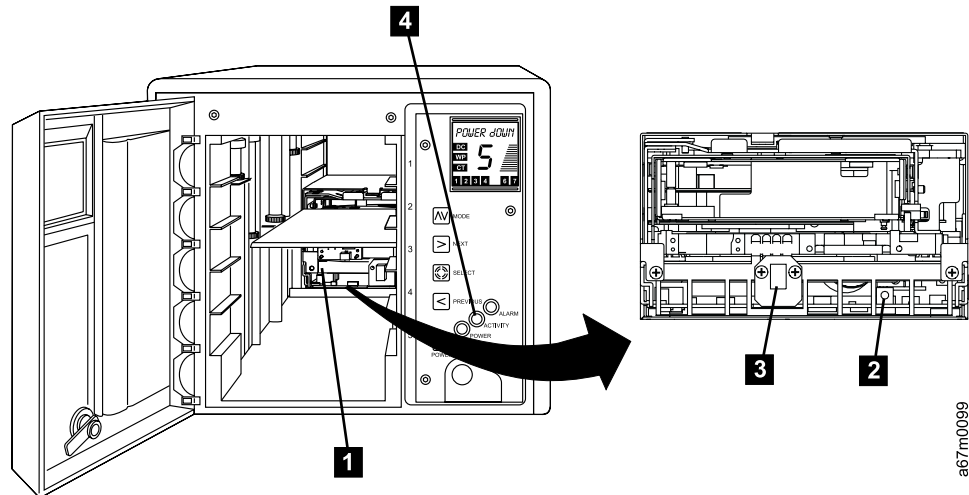

Figure 26. Resetting the tape drive
2. Open the front door of the autoloader and locate the drive (see **1** in Figure 26).